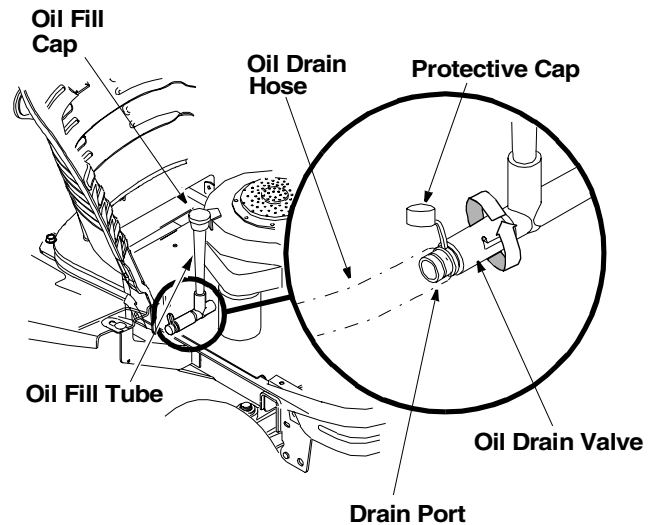

Figure 8
- Unscrew oil fill cap and remove dipstick from the oil fill tube. See Figure 8 .
- Pop open the protective cap on the end of the oil drain valve to expose the drain port. See Figure 8 .
- Push the oil drain valve in slightly, then rotate counter-clockwise and pull outward to begin draining oil. See Figure 8 .